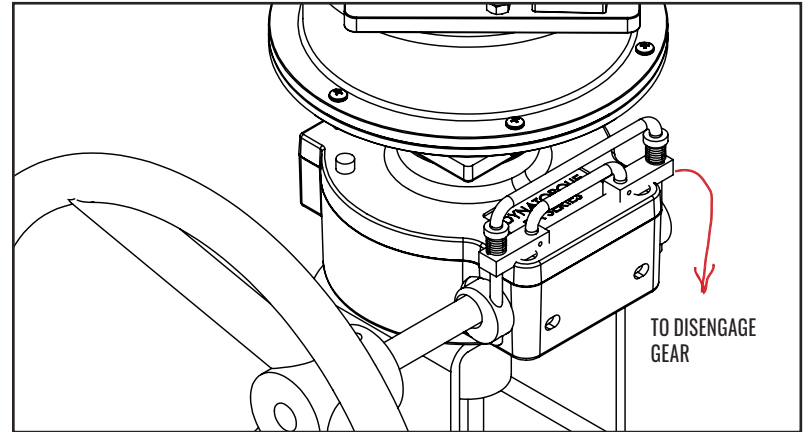

FIG. 2 FL-HT-0600-1.4 DECLUTCH GEAR IS SHOWN ENGAGED
1. Confirm the declutch mechanism on manual override gear is in the engaged position. (See Section VI on page 6 for full instructions on declutch operation). Refer to drawing FL-HT-0600-1.4 (Fig. 2) for engaged/disengaged declutch positions.